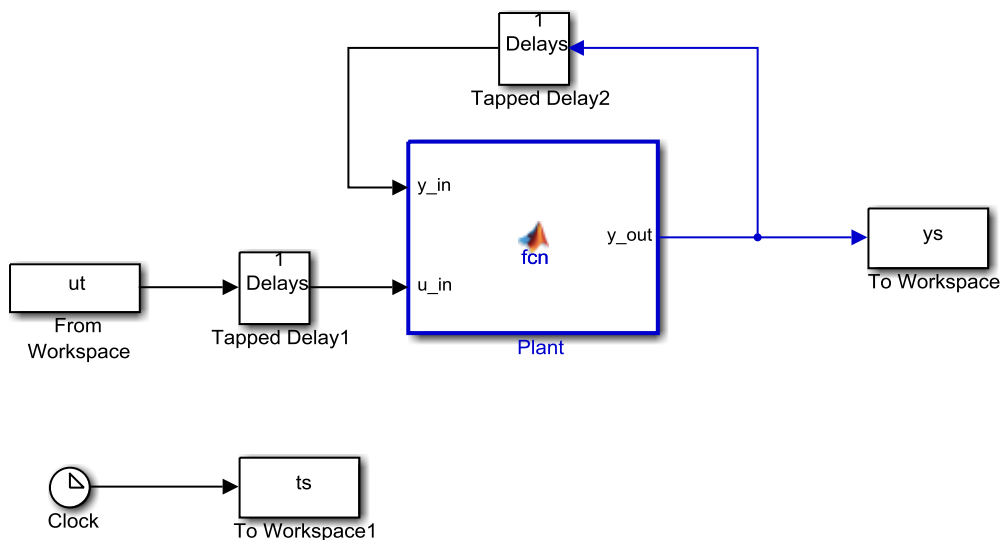
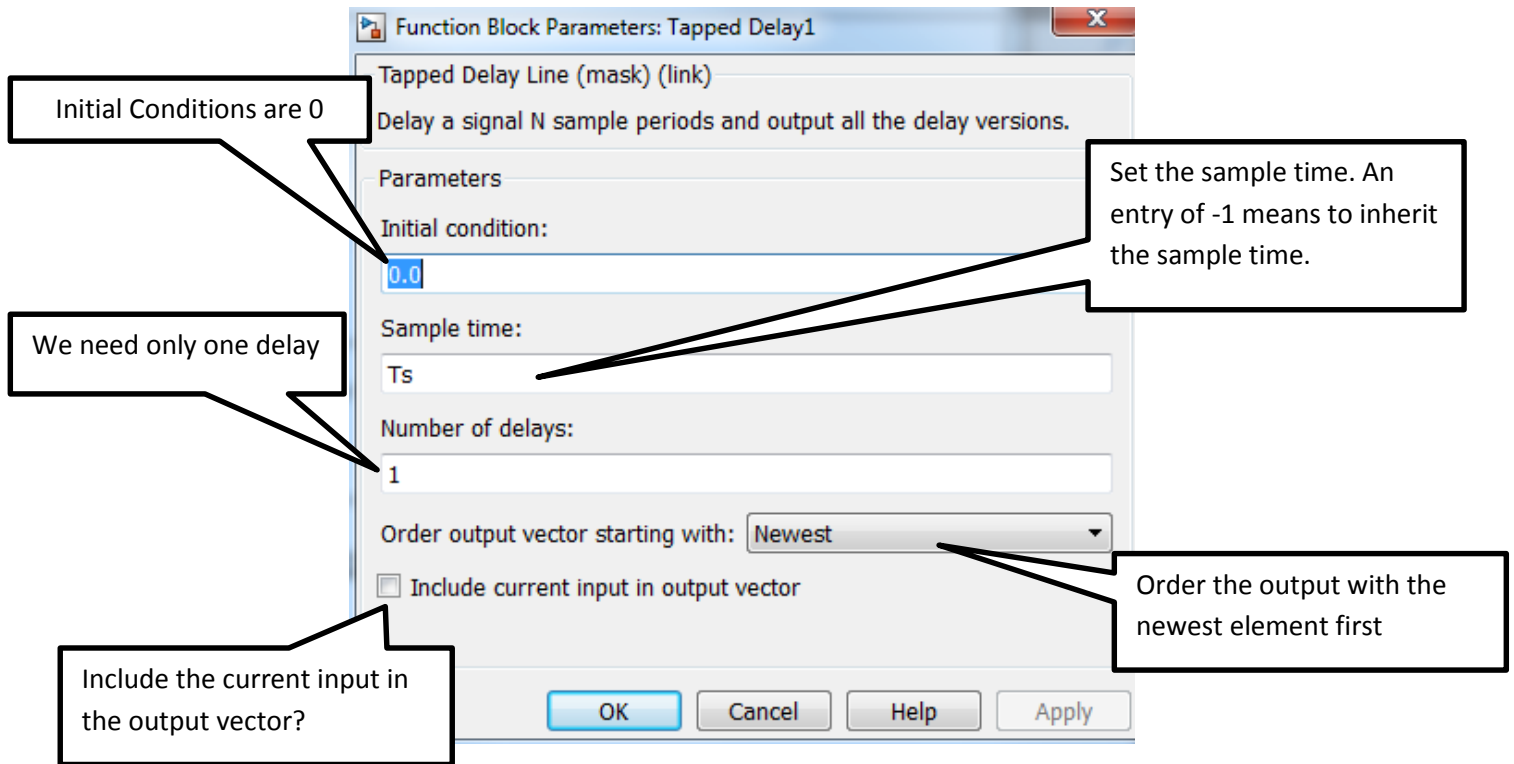

Figure 2. openloop_DE_A.slx
Figure 3. Parameter block for first delay, with explanations.
2) Now open up **openloop_DE_A.slx** (double click on it). It should look like Figure 2. We will be going through a number of the elements in this model so you can see how everything works.
Starting at the left of the model (Figure 2), the input goes into a Delay Block (Tapped Delay 1). If you click on this delay block you will get the parameter block shown in Figure 3. This figure also shows what many of the parameters mean.
Now click on the plant (the large block in the center of Figure 2) and you will get the innocent looking piece of code for implementing a discrete-time transfer function shown in Figure 5. There are two things “passed” to this function: y_{in} , and u_{in} .
- The **port** indicates the order in which the variable will appear in the left (input) or right (output) side of the block. For this simulation, the **port** of **y_in** is **one** and the **port** of **u_in** is **two**, and this is reflected in how they are placed on the left of the **plant** block (See Figure 2).